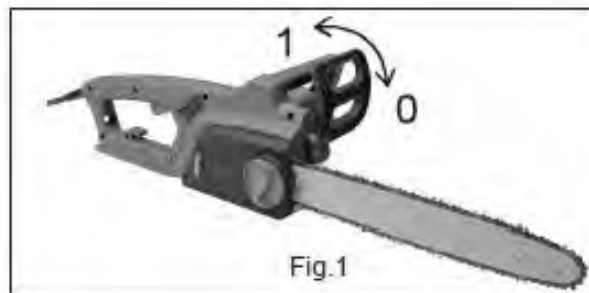

Fig.1
In the event of a kickback occurring, the left hand should grasp front handle and come into contact with the chain brake stopping the chain immediately by moving it to position '0'. See fig 1.
- ⚠ To reset the chain brake disconnect from the mains and snap it backwards (towards the operator) into position '1'. See fig 1.